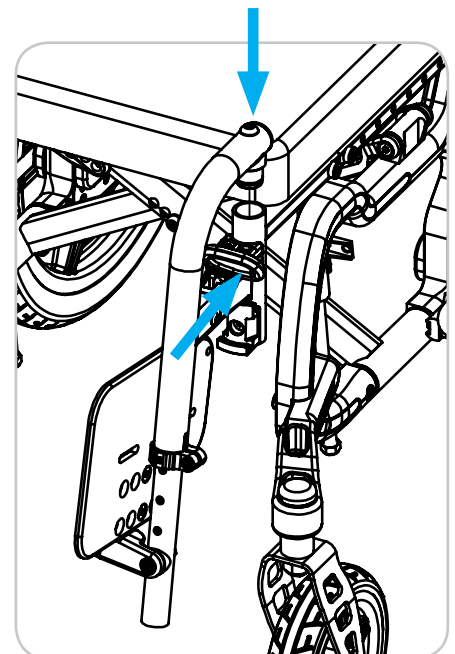

Figure 26
1. Align front rigging with seat tube. Reference Figure 26.